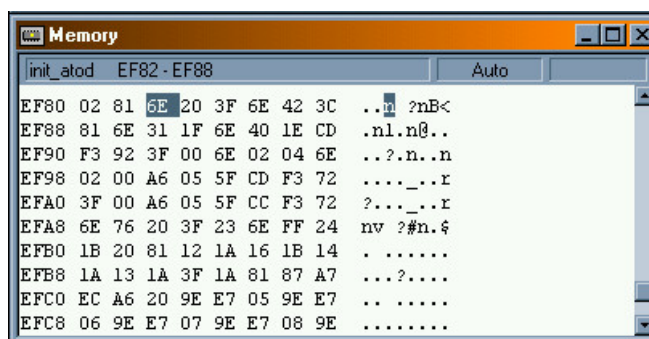

Figure 1-14. Verify New Code in FLASH
18. Type in address EF82 and click OK. The new memory contents are shown. Contents will be FF if not programmed. See Figure 1-14.